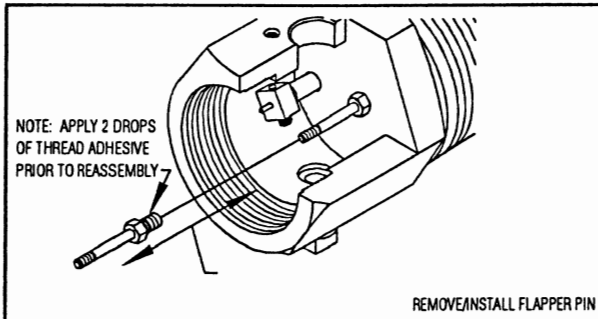

Figure 28. Pivot Pin removal/installation
- Install Item 14 Orings into Internal Counterbore and Item 19 Oring into External Groove of guide as shown in Figure 28. When properly installed, outer Internal Oring will be approximately flush with End of Guide and External Oring must not be spirally twisted in groove.
- With a 1/4" bolt clearance (deep well) socket and hand driver or ratchet and extension, unthread Item 6 Flapper Pivot Pin from LLS Body as shown in figure 28.
- Apply thread adhesive to the larger threads of Item 6 Flapper Pivot Pin. Thread Pin into LLS body as shown in Figure 28. Tighten to approximately 35 lbs. in. then wipe off excess adhesive from around thread joint.